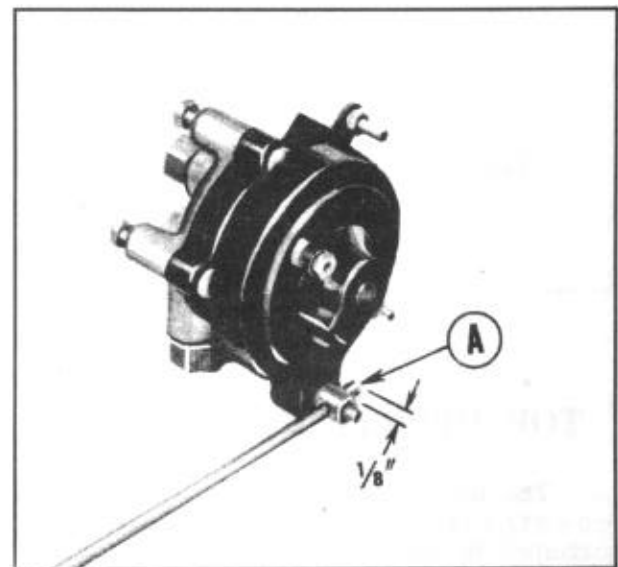

FIGURE 148
1. Loosen the retaining screw at (A), Figure 148, and adjust control rod so that 1/8" extends thru the retainer as illustrated. Tighten retaining screw (A) securely.